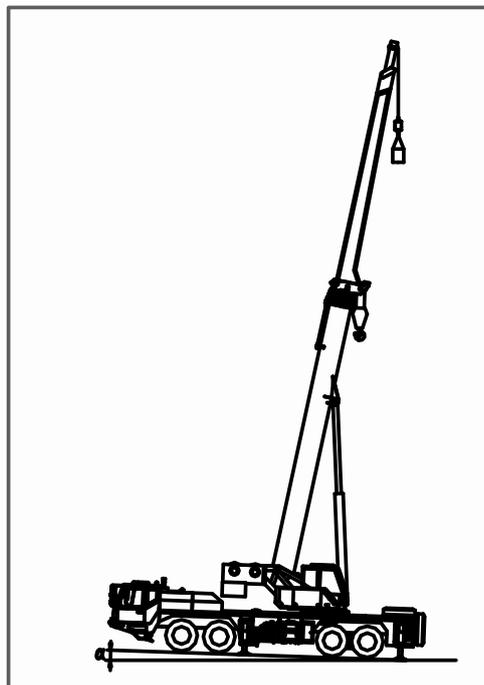

Fig. 02 – 02
- Before operation, the crane must be leveled. Under any working conditions, the inclination angle  $\alpha$  of the crane can not be more than  $0.6^\circ$ . Refer to Fig. 02 – 02.